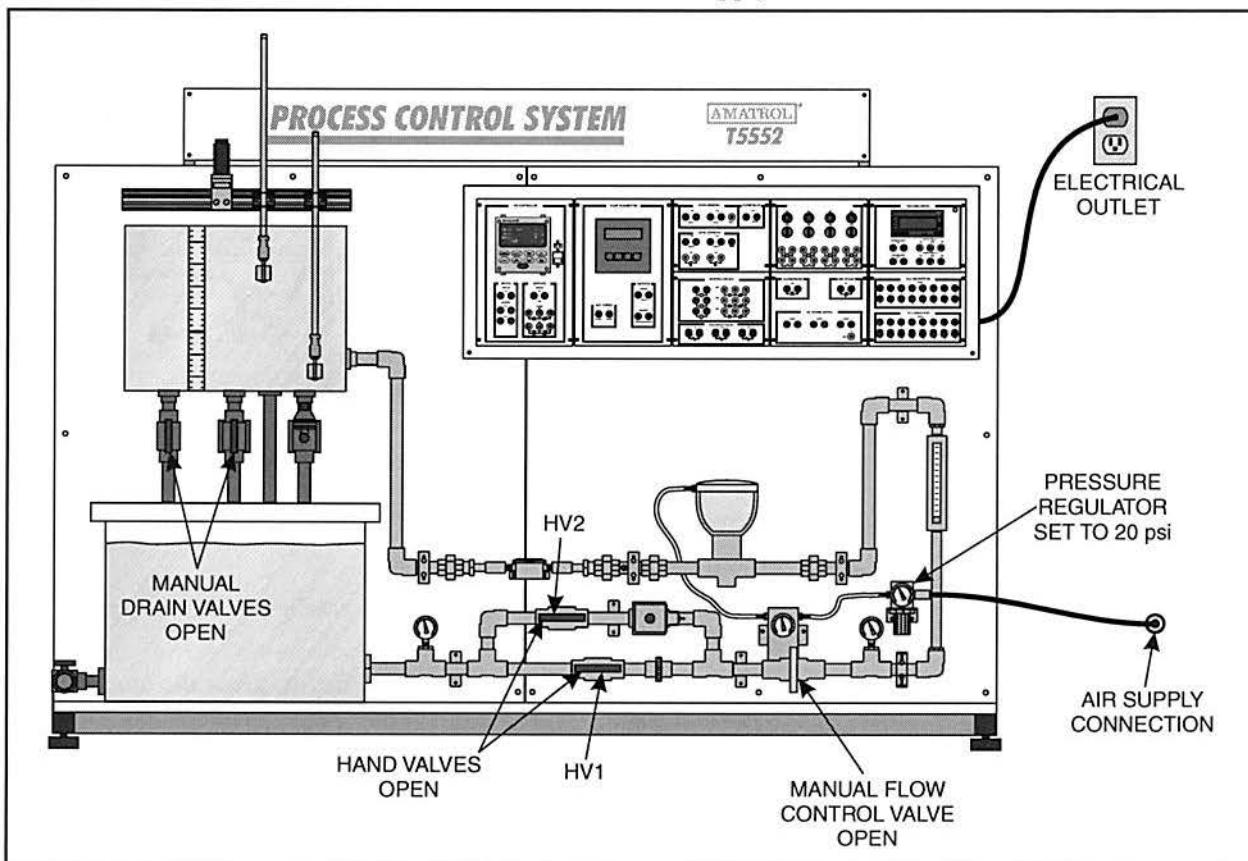

Figure 11. T5552 Set Up
- 2. Perform the following substeps to set up the T5552, as shown in figure 11.